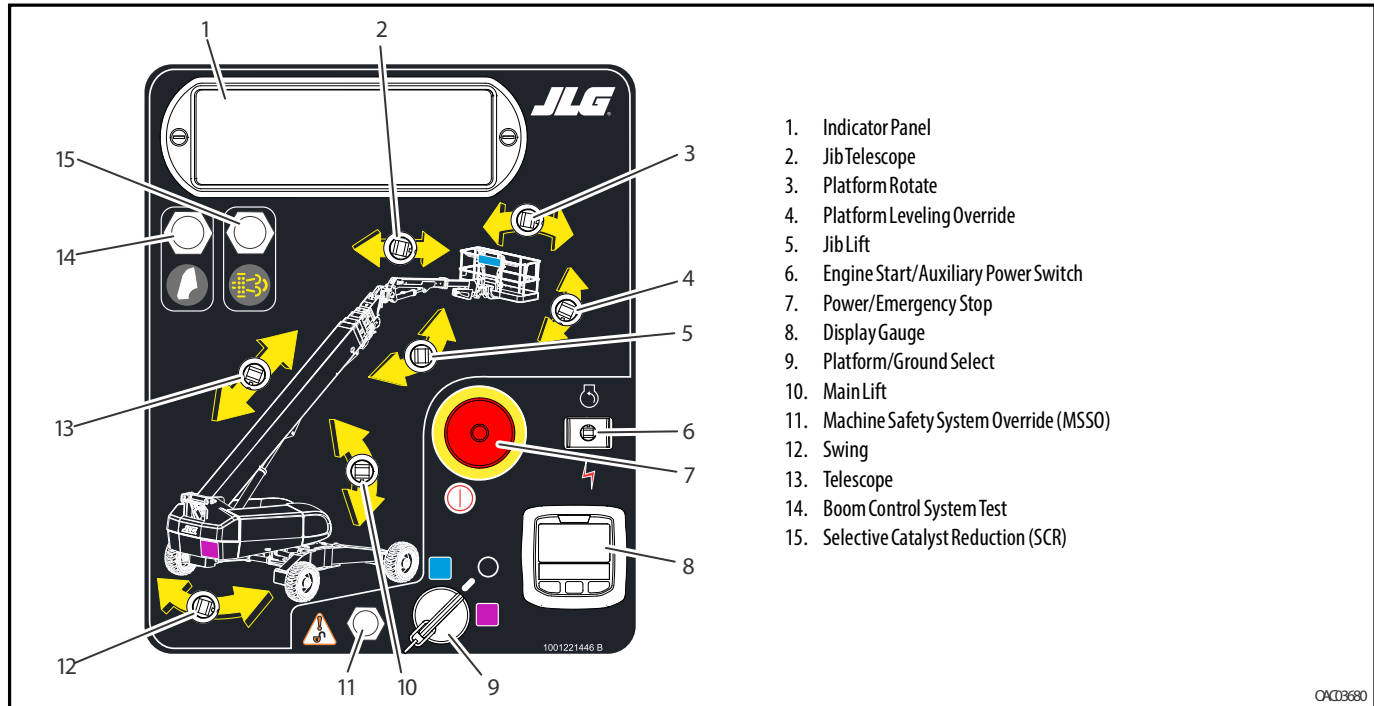

Figure 3-3. Ground Control Console with MSSO and SCR
*See Figure 3-3., Ground Control Console with MSSO and SCR and Figure 3-2., Ground Control Console with SCR.*